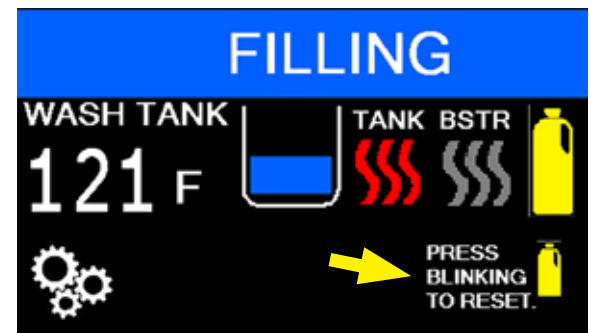

Fig. 34 - LOW DETERGENT ALERT - (flashing bottle)
1. If the IN-LINE detergent sensor does not detect chemical within the prime cycle, then a flashing yellow bottle symbol appears on the operation screen indicating a "LOW DETERGENT ALERT", (Fig. 34).